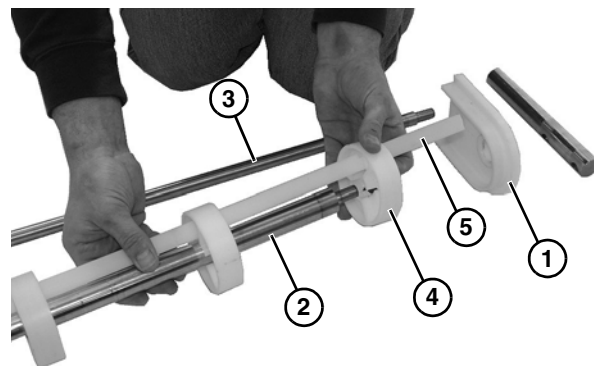

Figure 62
- Remove pinch guard (**Figure 62, item 1**) from idler shaft (**Figure 62, item 2**) and pinch guard shaft (**Figure 62, item 3**).
- Slide the pucks (**Figure 62, item 4**) and alignment bar (**Figure 62, item 5**) off the idler shaft (**Figure 62, item 2**).